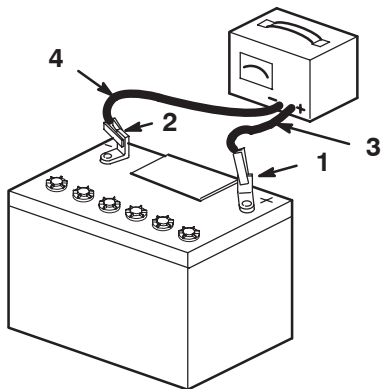

Figure 56
4. When the battery is fully charged, unplug the charger from the electrical outlet, then disconnect the charger leads from the battery posts (Fig. 56).